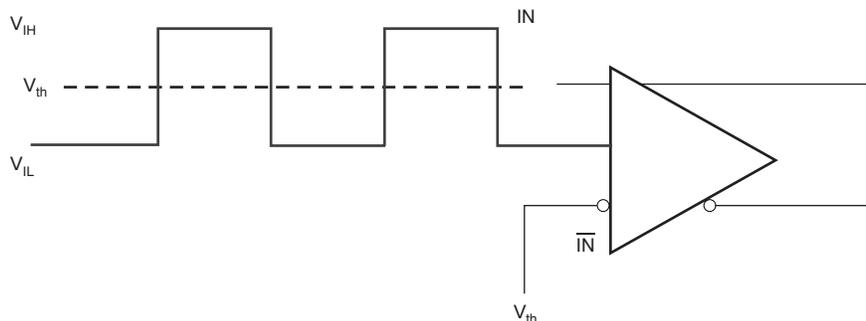
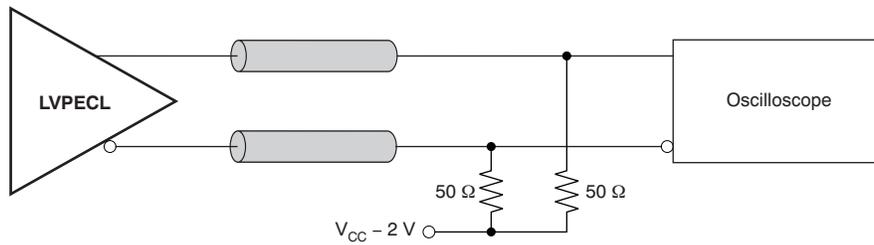
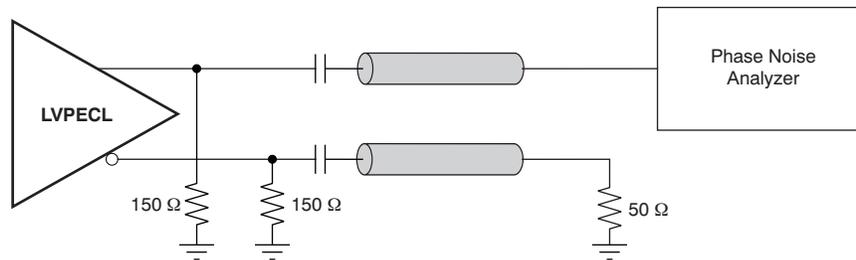

Figure 3. DC-Coupled LVCMOS Input During Device Test
Figure 8. LVPECL Output DC Configuration During Device Test
Figure 9. LVPECL Output AC Configuration During Device Test
(1) Figure 8 and Figure 9 show dc and ac test setup.
This section describes the function of each block for the CDCLVP1204. Figure 3 through Figure 9 illustrate how the device should be setup for a variety of test configurations.